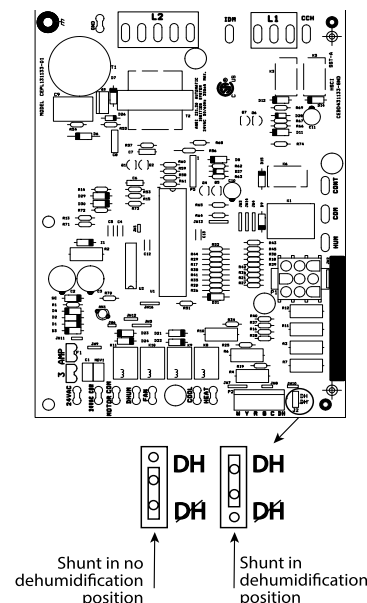

Fig. 19 – Single Phase IGC Board
This unit is factory-set for use with a single cooling fan speed. For single phase models, the cooling speed is marked “COOL” on the IGC (See Fig. 19). The factory-shipped settings are noted in Table 9. There are up to 3 additional speed tap wires available for use in either gas heating mode, cooling mode, or continuous fan mode (For color coding on the indoor fan motor leads, see Table 8). For single phase models, one of the additional speed tap wires is connected to the continuous fan, with the other 2 wires shipped loose in the control box near the IGC.
- Move shunt jumper on IGC board to “DH” (See Fig. 19).
Continuous Fan Speed must meet or exceed the Required Minimum Dissipation Airflow (Table 1), Continuous fan speed selected must be connected to “FAN” terminal on IGC Board (Fig. 19).